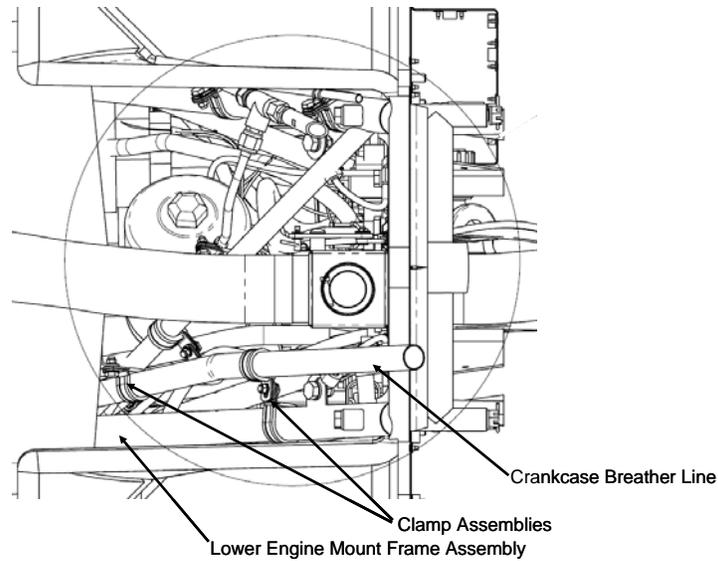

Figure 71-3 Crankcase Direct Breather Line Clamp Removal
13. If so equipped, remove crankcase direct breather line clamp assemblies from the lower engine mount frame assembly as shown in Figure 71-3. The crankcase breather line is removed with the engine.